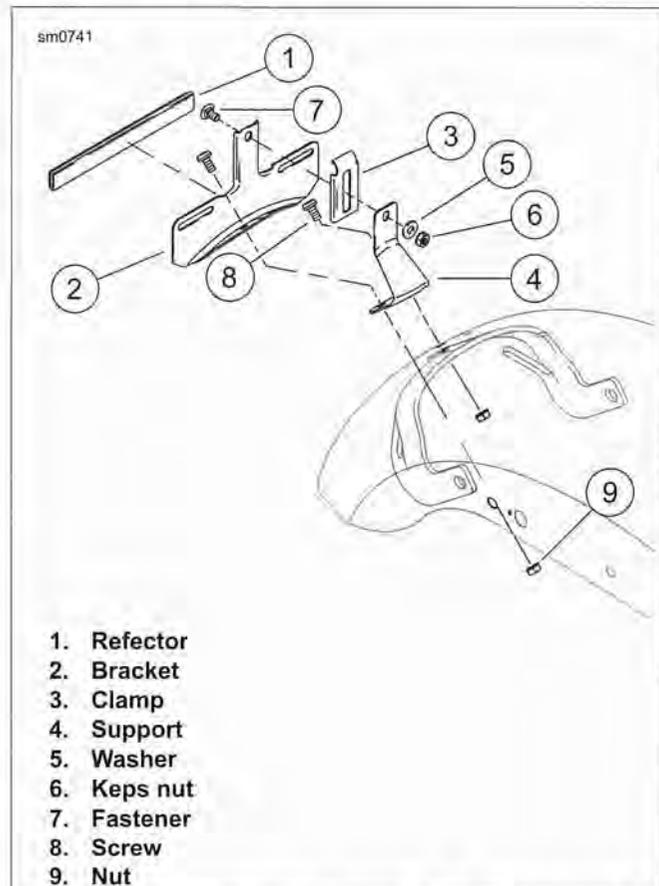

Figure 2-203. License Plate Bracket: XL Models except XL 883N, XL 1200N/X/C/CP
1. See Figure 2-203. Loosen the keps nut and remove the license plate.